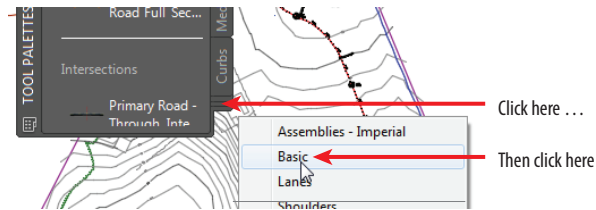

FIGURE 9.6 Selecting the Basic tool palette
7. Click the stack of tabs at the bottom of the Tool Palettes window, and then click Basic, as shown in Figure 9.6.